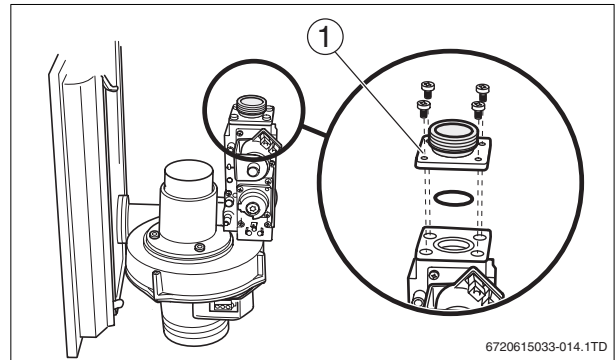

Fig. 10 Installing the gas flange
- ▶ Install the gas flange from the natural gas assembly on the new gas valve (→ fig. 10, [1]).